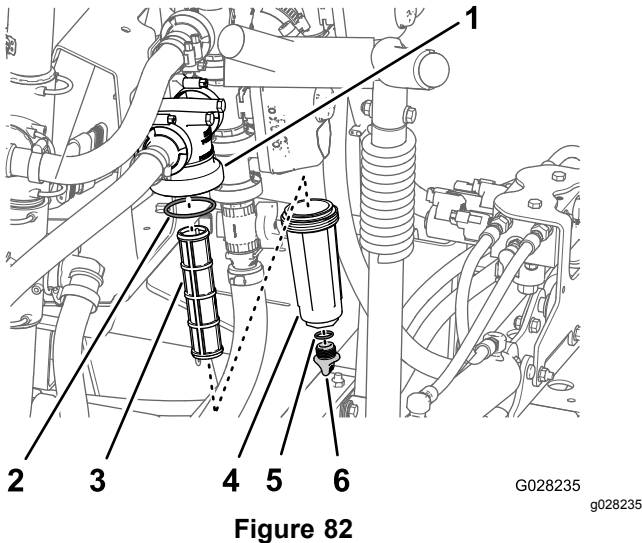

Figure 82
2. Align a drain pan under the pressure filter (Figure 82).
3. Rotate the drain plug counterclockwise and remove it from the bowl of the pressure filter (Figure 82).
4. Rotate the bowl counterclockwise and remove it from filter head (Figure 82).
5. Remove the old pressure filter element (Figure 82).
6. Check the O-ring for the drain plug (located inside the bowl) and the O-ring for bowl (located inside the filter head) for damage and wear (Figure 82).
7. Install the new pressure filter element into the filter head (Figure 82).
8. Install the bowl onto the filter head hand tight (Figure 82).
9. Install the plug into the bowl hand tight (Figure 82).